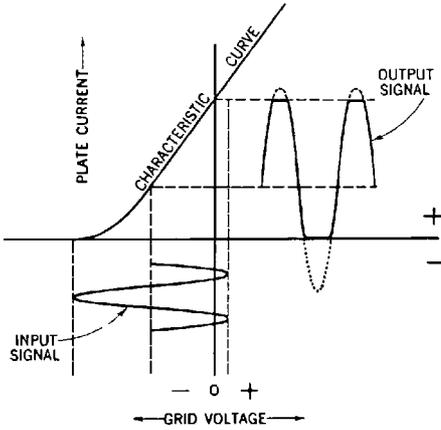

Fig. 39-4. Distortion of the signal due to overloading.
**Overloading Causes Distortion.** There is another form of distortion caused by *overloading* the tube. We may select the proper grid bias for our tube, but if a signal comes in that produces too great a swing of the grid potential, the grid may be driven positive on the positive half-cycle; and to the point of *cutoff* (the point where the negative charge on the grid gets so great as to stop entirely the flow of electrons from the cathode to the plate) on the negative half-cycle (Fig. 39-4). This condition results in a flattening of the tops and bottoms of the output curve. The remedy is to choose a tube which has a longer straight-line characteristic or else to use an input signal without so great a swing.